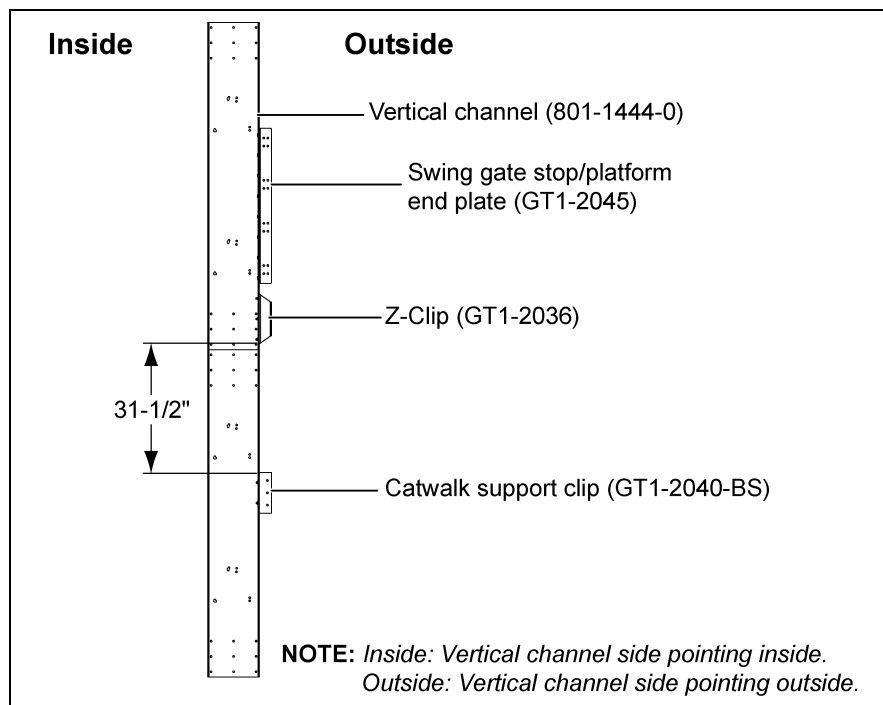
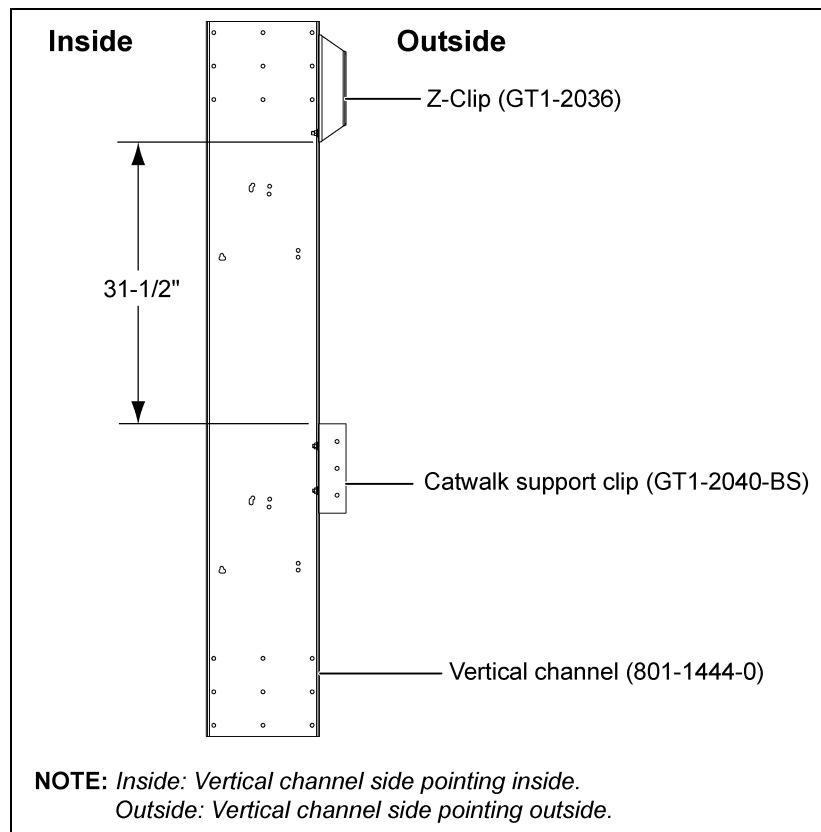

Figure 6H
Figure 6J
2. The distance between the Z-clip and support clip for 23'-4" offset and roof hatch platform is 31-1/2". *(See Figure 6H below and Figure 6J on Page 52.)*